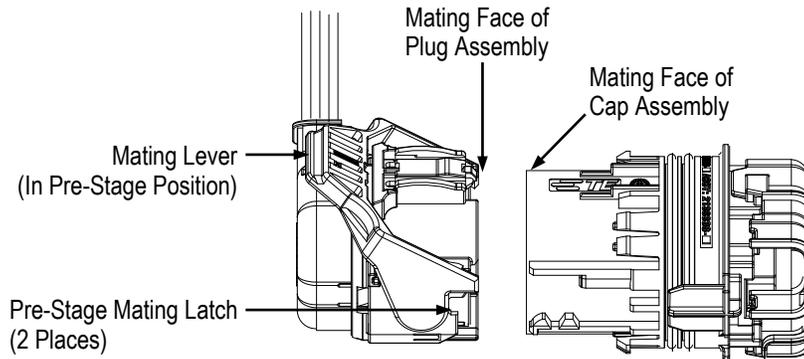

Figure 6
- Align the mating face of the plug assembly with the mating face of the cap assembly, and push them together until the plug assembly pre-stage mating latches engage and the mating lever starts to rotate. See Figure 6.